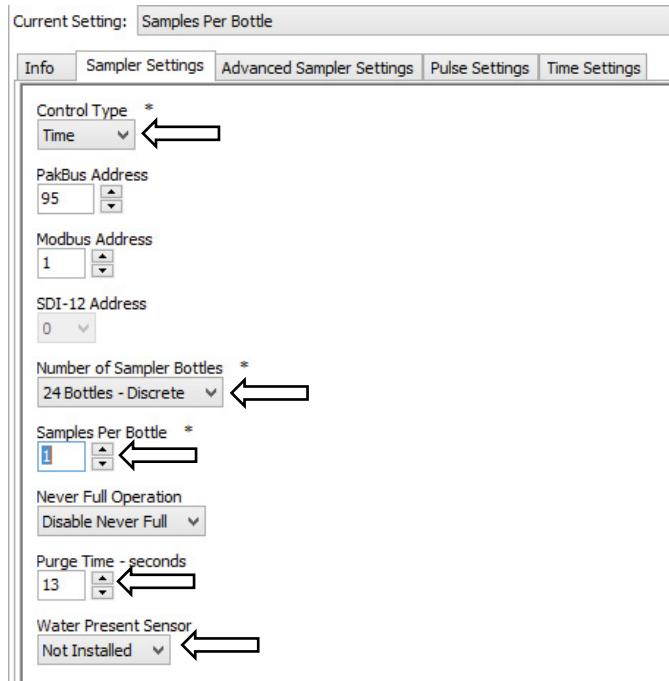

FIGURE 8-5. Time-Based Sampler Settings screen
1. Once connected to the VSC100, click the **Sampler Settings** tab (FIGURE 8-5).